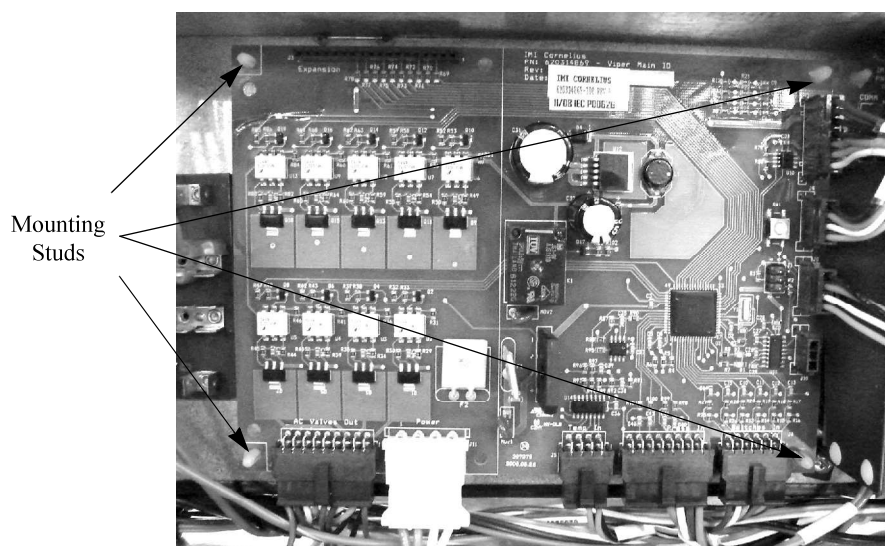

Figure 59. View of Control Board in E-Box
The control board is located in the E-Box. It is mounted to the panel on four (4) plastic mounting studs, shown in Figure 59.
The motor board is located in the E-Box, to the right of the control board. It is mounted to the panel on three (3) plastic mounting studs and a threaded standoff, shown in Figure 59.